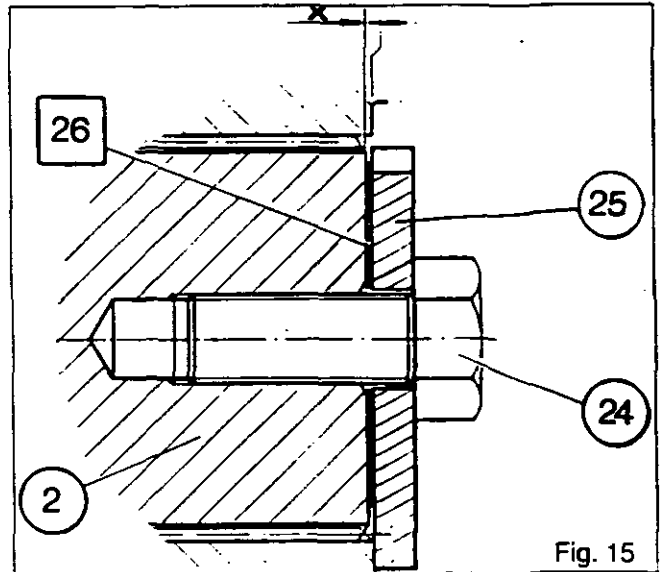
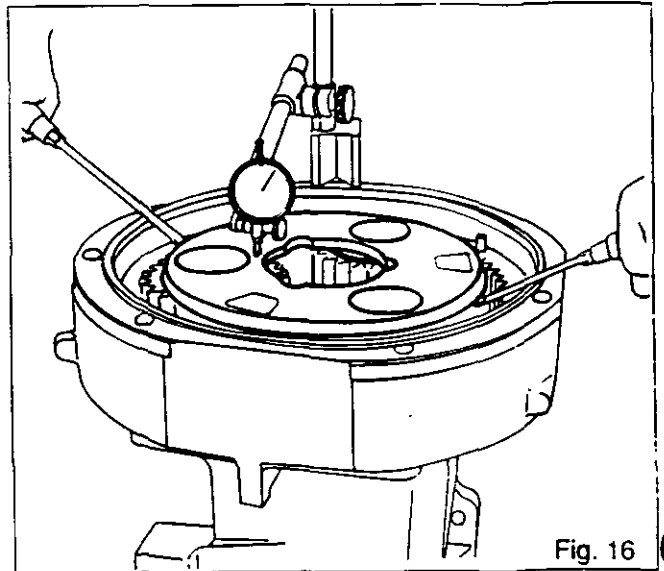

Fig. 15
Fig. 16
4. Fit shims [26] required to provide thickness greater than dimension **X** to obtain end play (Fig. 15).
5. Fit the washer (25) and the bolt (24) and tighten to a torque of 270-440 Nm.
6. Using a dial gauge, check the end play by moving the planetary carrier laterally (Fig. 16).
7. Remove the bolt (24) and the washer (25).